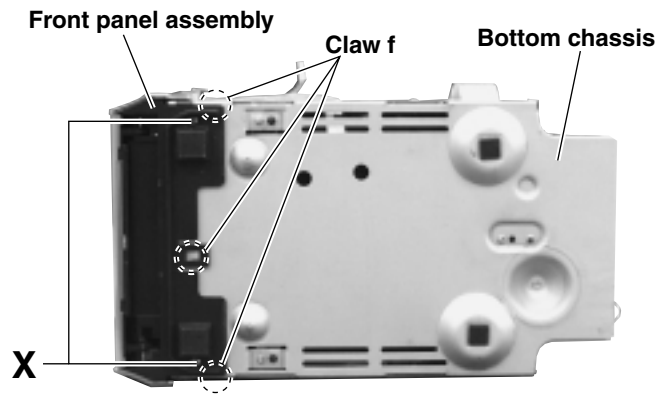

Fig.15
■ Removing the front panel assembly (See Fig.15)